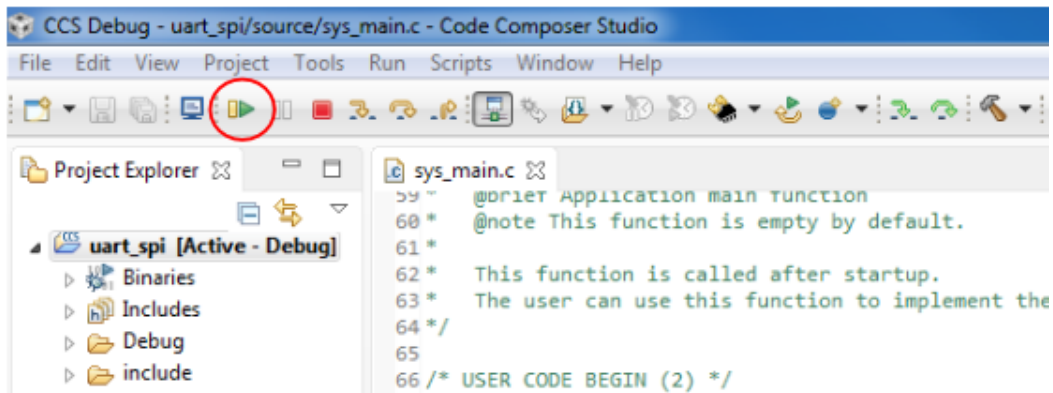

Figure 13. Resume
7. Once the program is ready to be run, click the resume button on the toolbar on the top shown in Figure 13